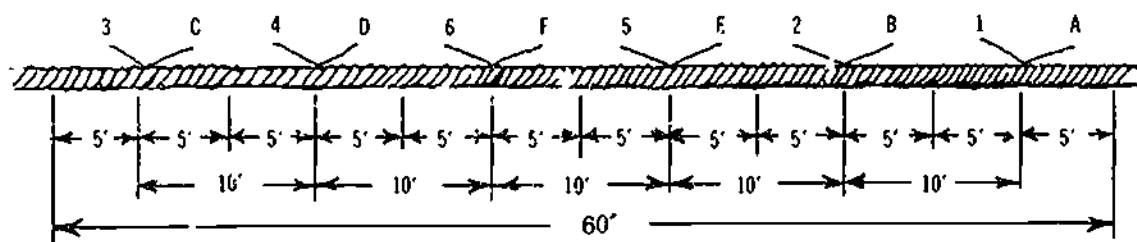

Figure 7-52. Splicing Wire Rope — Step 5
- Step 5. Unlay Strand 5 back to the 5' mark and lay Strand E in its place. Then unlay Strand F back to the 5' mark (in the opposite rope) and lay Strand 6 in its place. The splice should now be laid out as in Figure 7-52.